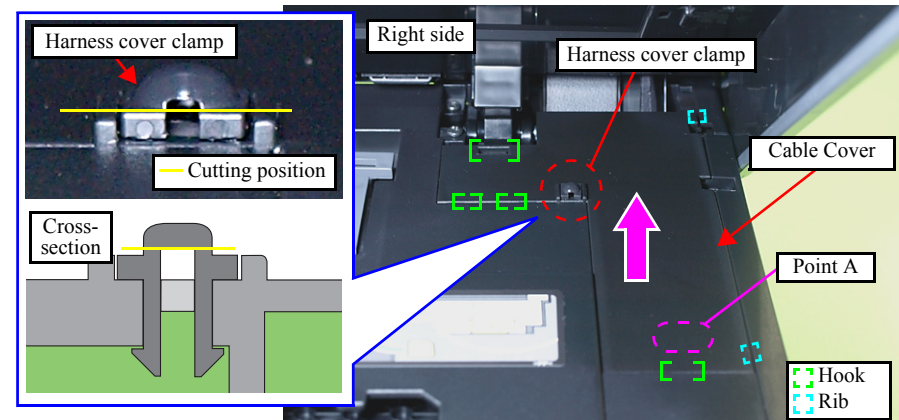

Figure 4-4. Removing the Cable Cover
2. Cut the harness cover clamp with a nipper as shown in Fig. 4-4 and remove the harness cover clamp.
- When installing the Cable Cover, secure it with a new Harness Cover Clamp. (See Fig. 4-4.)